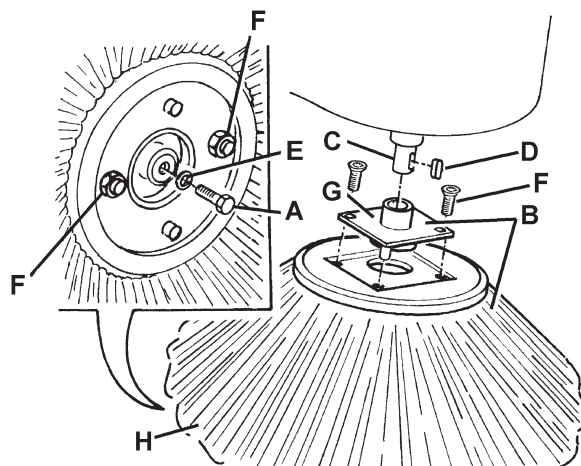

Figure 11
1. Drive the machine on a level floor and engage the parking brake with the pedal (82) and the lever (75).
2. Turn the ignition key (69) to "0".
3. Lift the side broom which has to be removed, with the lever (77) or (78).
4. Remove the screw (A, Fig. 11) inside the side broom, then remove the side broom (B) with the hub (B) by disengaging it from the shaft (C).
5. At the workbench, remove the two screws (F, Fig. 11) and separate the broom (H) from the hub (G).
6. Install the new side broom (H, Fig. 11) onto the hub (G), and tighten the screws (F).
7. Install the key (D), then install the new side broom with the hub (B, Fig. 11). Install the washer (E) and tighten the screw (A).